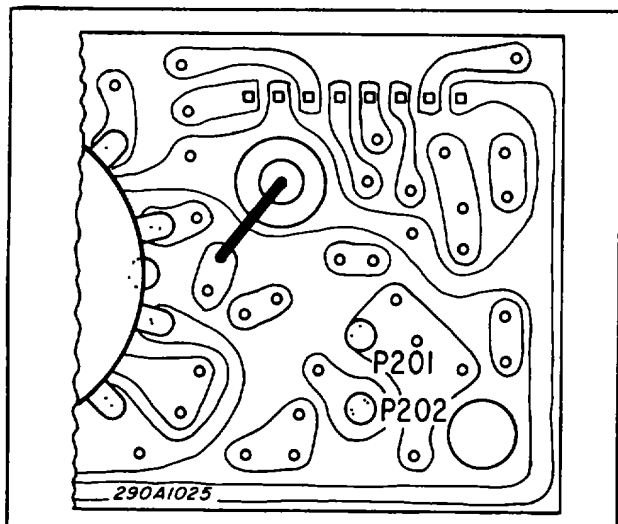

Figure 3-6. P201 and P202 Location
3. Solder a length of AWG 22 bare wire between P201 and P202 on the foil side of the Front Circuit Board in the Siren Module. See figure 3-6 for the location of P201 and P202.